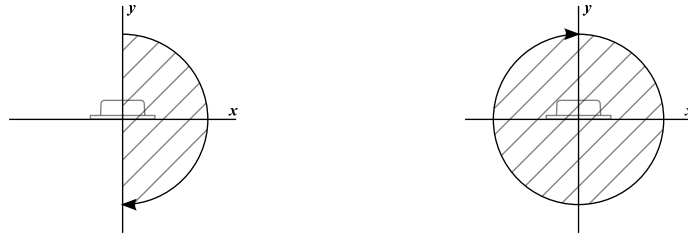

Figure 1: From left to right: 180° of coverage, or 50%. 360° of coverage, or 100%.
2. Rotate the MotionNode IMU in space. The more complete the *coverage*, the better the resulting calibration. Think of *coverage* as the total number of orientations you rotate the MotionNode through. See Figure 1 for an example in 2D, on a circle. You will have to work in 3D, on a sphere, but the concept is the same.